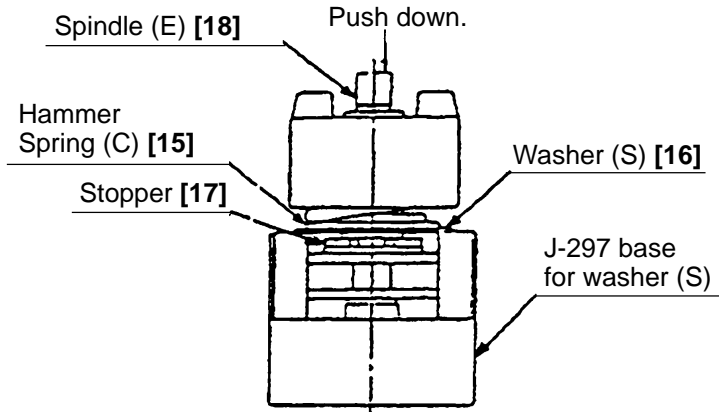

Fig. 6
Mount the hammer assembly onto the J-297 base for washer (S). With a hand press, push down the top of Spindle (E) [18] to compress Hammer Spring (C) [15]. In this position, remove the Stopper [17] with a flat-blade screwdriver, then release the hand press. (See Fig. 6.)